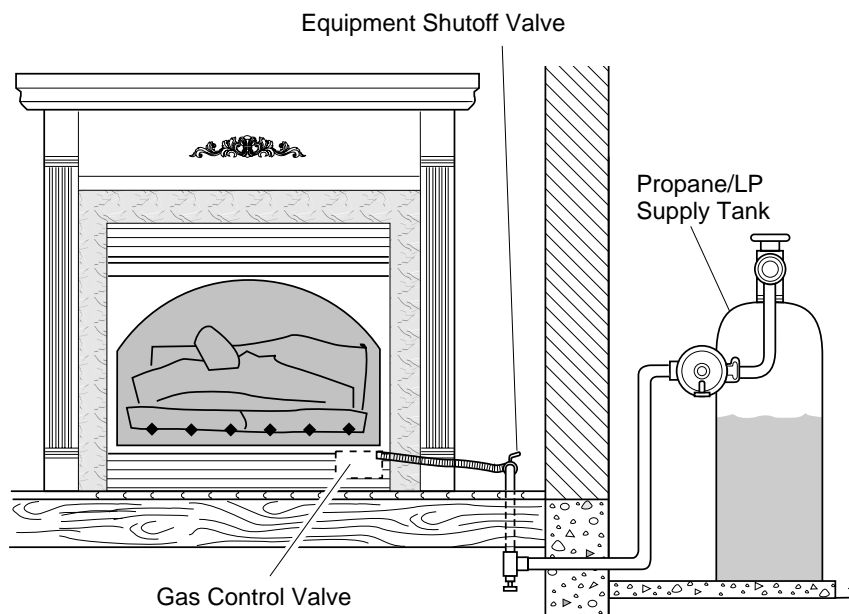

Figure 23 - Checking Gas Joints
3. Check all joints from propane/LP supply to equipment shutoff valve (see Figure 23). Apply mixture of liquid soap and water to gas joints. Bubbles forming show a leak.
4. Check all joints from equipment shutoff valve to thermostat gas valve (see Figure 23). Apply mixture of liquid soap and water to gas joints. Bubbles forming show a leak.